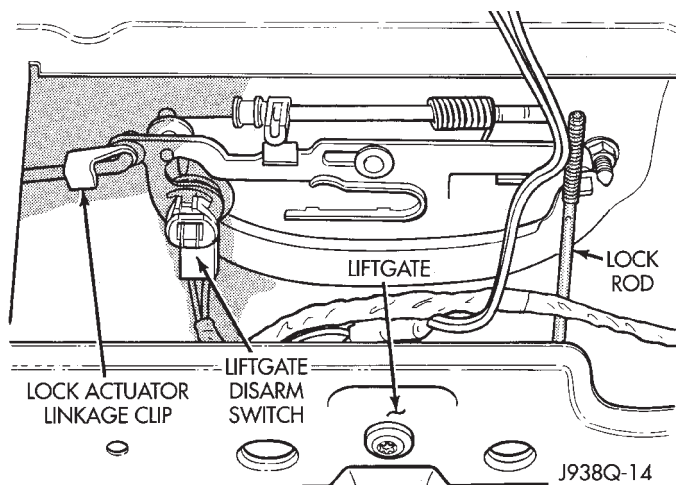

Fig. 4 Lock Actuator Motor Linkage Remove/Install
(6) Reach through the liftgate inner panel access hole and disconnect the lock actuator motor linkage clip at the liftgate latch handle (Fig. 4).